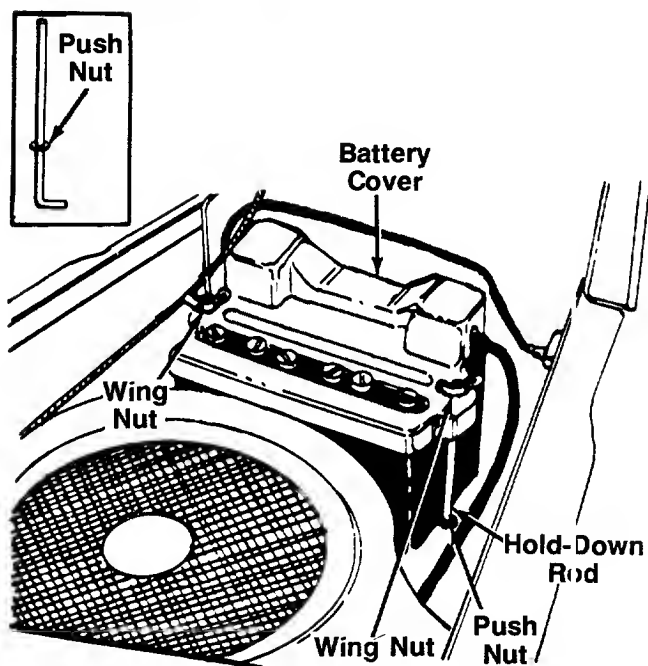

FIGURE 7.
4. Attach one push nut to each battery hold-down rod as follows. Thread the push nut, flat side down, over the threads on hold-down rod, then slide it further down the rod. See figure 7, inset.
5. Hook one hold-down rod into the hole in battery plate beside the battery as shown in figure 7. Slide the push nut down the rod, against the battery plate. Place the black plastic battery cover in position over the hold-down rod. Secure with wing nut.